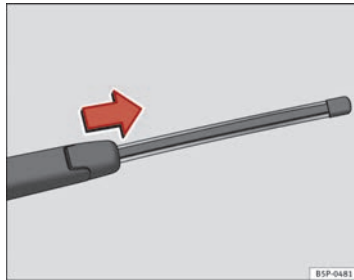

Fig. 130 Removing the rear window wiper blade
- Lift the wiper arm away from the glass ⇒ Fig. 130.
- Slide the blade adapter in the direction of the arrow and remove the blade ⇒ Fig. 130.